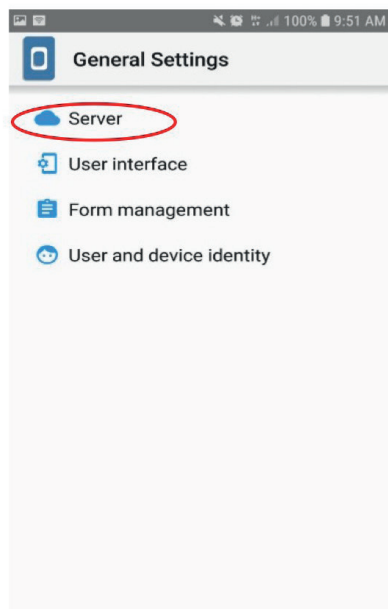
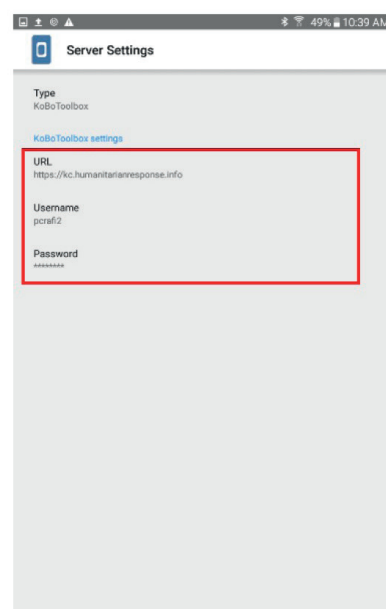

Figure 14: KoBoCollect Application Server Settings
Figure 15: KoBoCollect Application - configuring Server Settings
2. Once on General Settings, click on "Server Settings" in order to enter details and access PCRAFI II account containing the PCRAFI II data collection templates (Figure 14). Enter username and password (Figure 15).